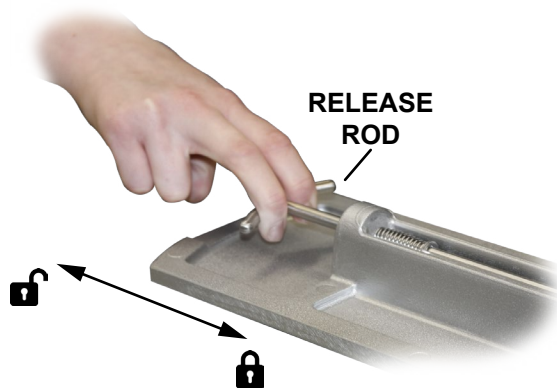

Figure 1. Release Rod
2. Activate the side rail clamp release handle and inspect for function. Activate the release rod to ensure proper locking function (Figure 1).